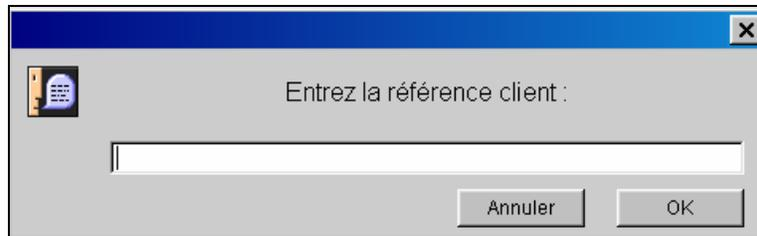

Figure 4: Comment of your choice
**Customer ref:** a dialogue box appears when you click in this field. Enter or change the reference and confirm (figure 4).